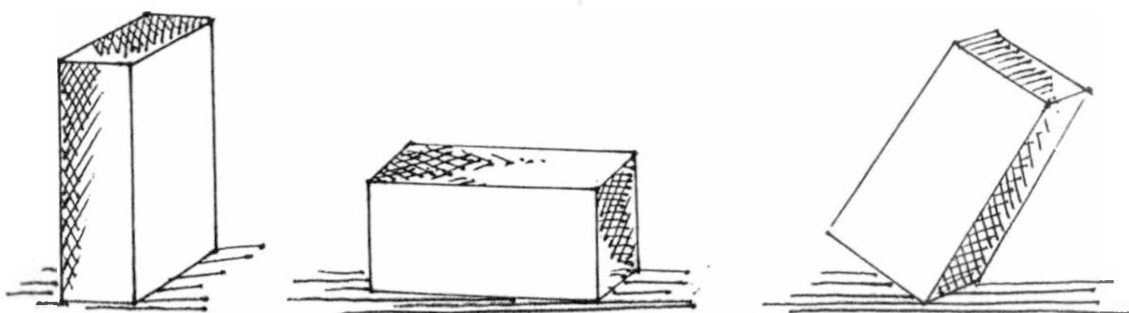

Fig.2.16
1. State whether the following positions of a brick as shown in Fig.2.16 are stable or unstable.